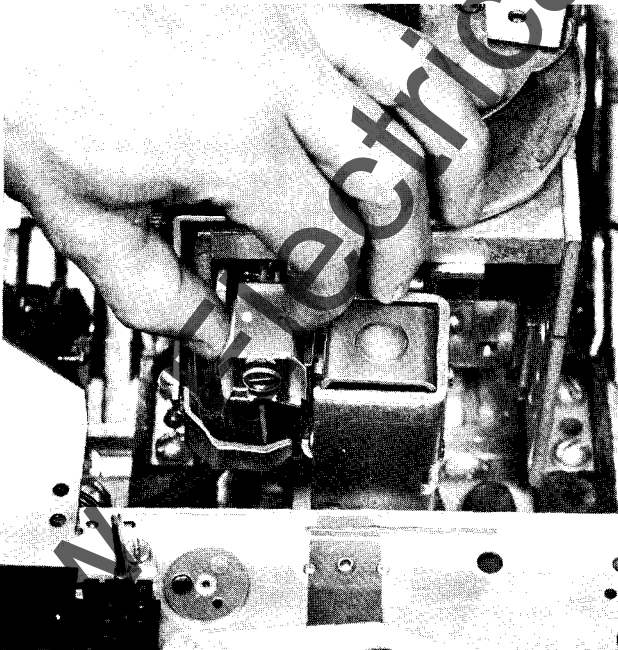
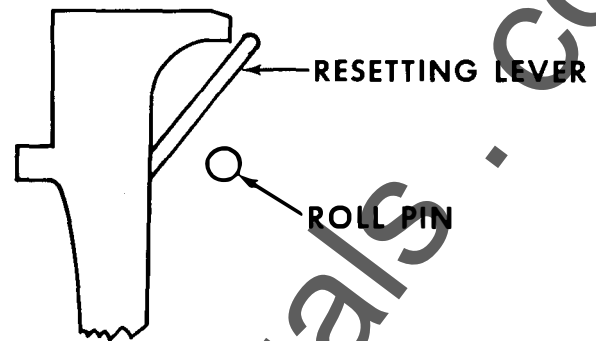

Fig. 6. View, left side mounting
Fig. 11. Roll pin position
- Block the breaker crossbar down at least 1" so that the mechanism resetting pin will be below the shunt trip slide resetting surface. See Fig. 6.
- Insert shunt trip leads into mechanism above the trip slide extension arm so that leads come out of the mechanism below the extension arm. See Fig. 6.
- Place the shunt trip device inside the breaker mechanism frame, as shown in Fig. 6 or 7.
*NOTE: It is very important to be sure the resetting roll pin is beneath the resetting surface of the resetting lever. See Fig. 11 and Fig. 6.*
3. Refer to step 4a-4e on pages four and five and Fig. 6 to install blown fuse trip device.